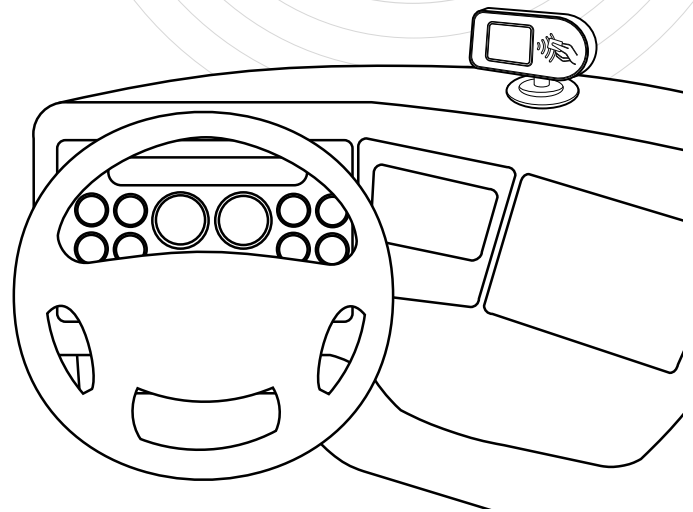

Fig 7-1
- 2) Suggested mounting areas include horizontally atop dashboard. Verify placement acceptability with state DOT/law enforcement prior to installation. See Fig 7-1.